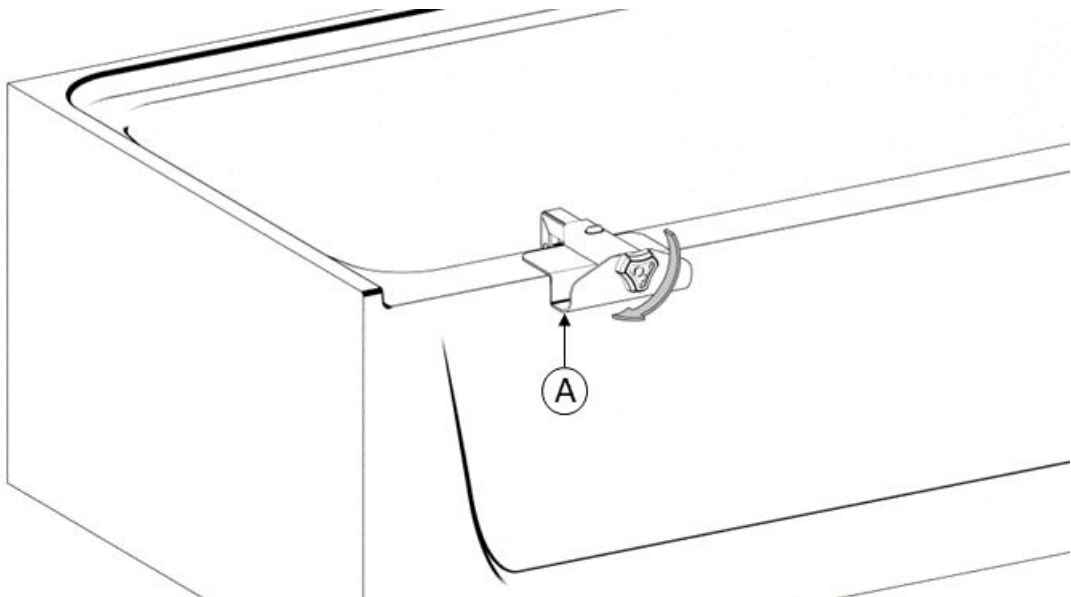

FIGURE 3
3. Ensure that the installation location is clean and dry prior to installation. Extend **A** to fit over the side of the bathtub, then rotate the knob clockwise to secure **A** to the tub as shown in *FIGURE 3*. Do NOT fully tighten.